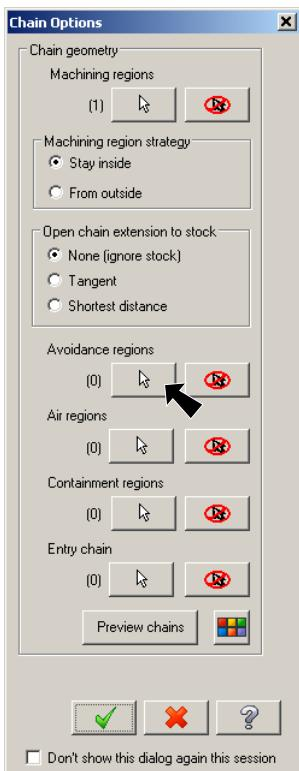

Fig. 35
Step 6. Select **Avoidance regions**  button in Chain Options dialog box, Fig. 35.
Step 8. Click OK  in Chain Options box, Fig 35.